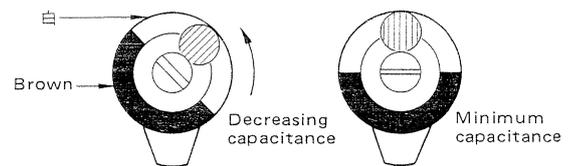

Fig. 14 Adjustment of TC7
- (2) Increase supply voltage to 13 V and adjust TC3 ~ 7 for maximum indication on the power meter.
- (3) Reset supply voltage to 9 V, and adjust TC1 ~ 4 for maximum indication on the power meter.
- (4) Again increase supply voltage to 13 V and turn TC7 in the direction decreasing capacitance to give the reading of 2.2 W on the power meter. In this time, consuming current reaches 650 ~ 700 mA. (The channel indication lamp should be off.) (Fig. 14)